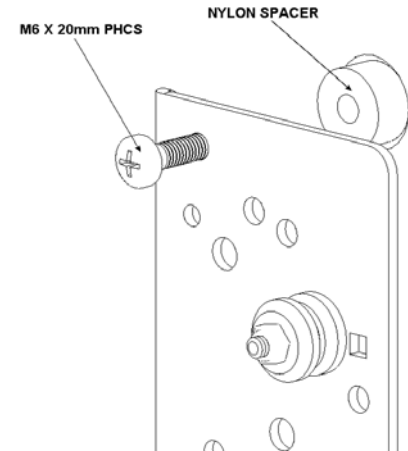
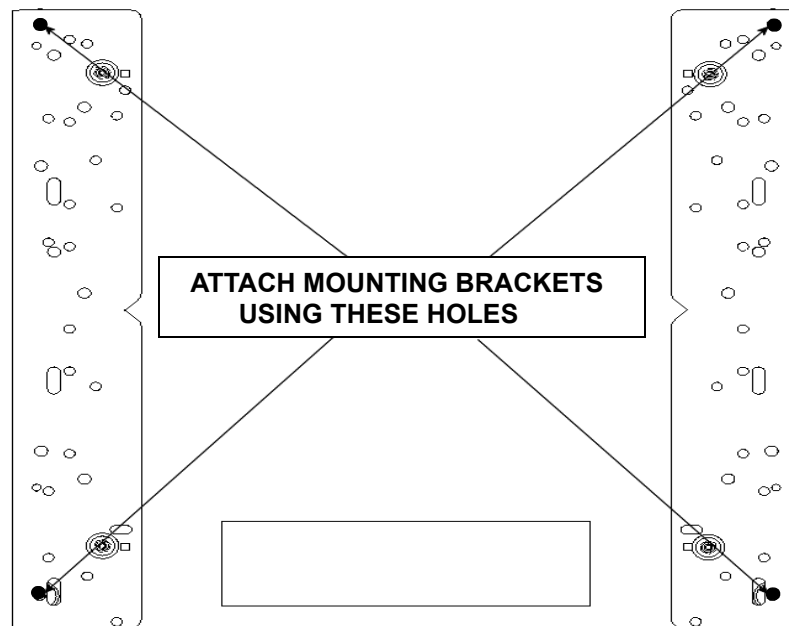

Figure 22. Spacer Installation for Group 7
Figure 23. Bracket Attachment for Group 7
3. Place the four Nylon spacers over the mounting holes on your Large Flat Panel display (see Figure 22).
4. Place the interface brackets over the Nylon spacers (see Figure 22 and Figure 23).
6. Using the hardware in the parts bag labeled H, secure the interface brackets to your Large Flat Panel display using the top hole and the bottom hole (see Figure 22 and Figure 23) in each interface bracket. Do not overtighten the mounting screws.